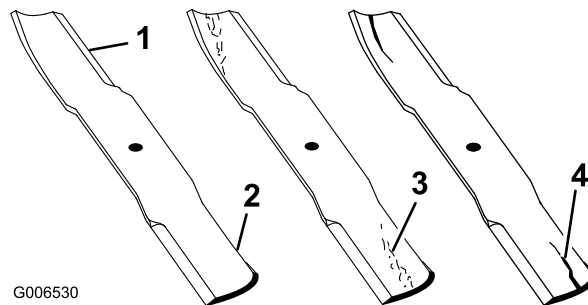

Figure 93
- Inspect the cutting edges (Figure 93). If the edges are not sharp or have nicks, remove and sharpen the blades. Refer to Sharpening the Blades.
- Inspect the blades, especially the curved area (Figure 93). If you notice any damage, wear, or a slot forming in this area (Figure 93), immediately install a new blade.